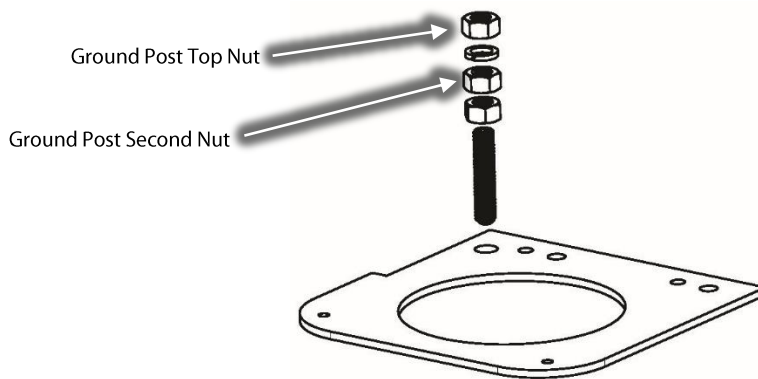

Figure 2 – Ground Location
10. Disconnect the Soft Start ground wire by removing the top nut and mains input ground wire from the ground post on the compressor housing at 3-phase connection point. Refer to Figure 2 (Ground Location).